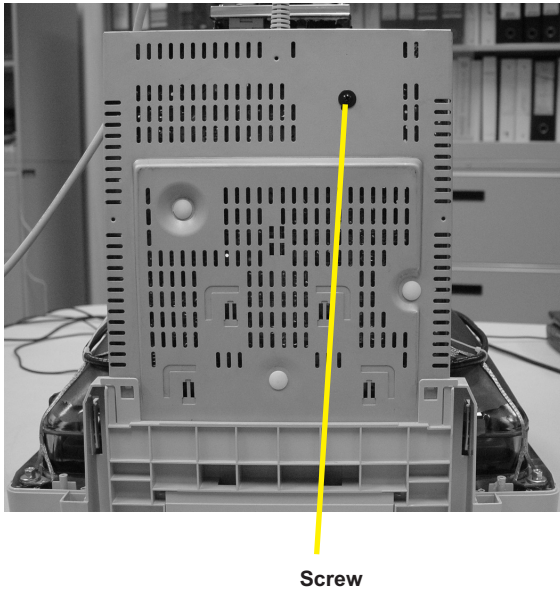

Fig. 5
- Remove 2 screws for disconnect the Bottom tray as Fig. 5.